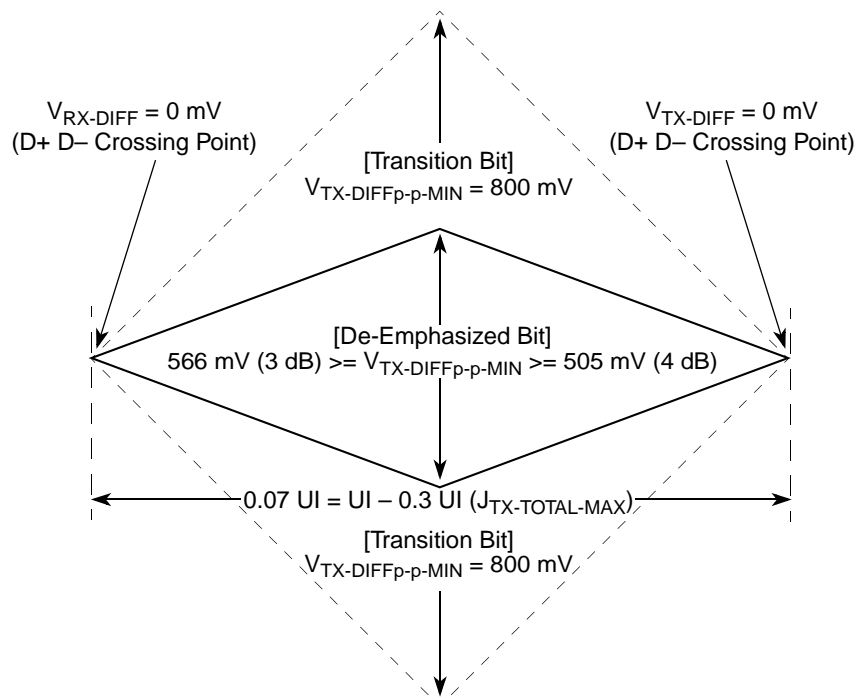
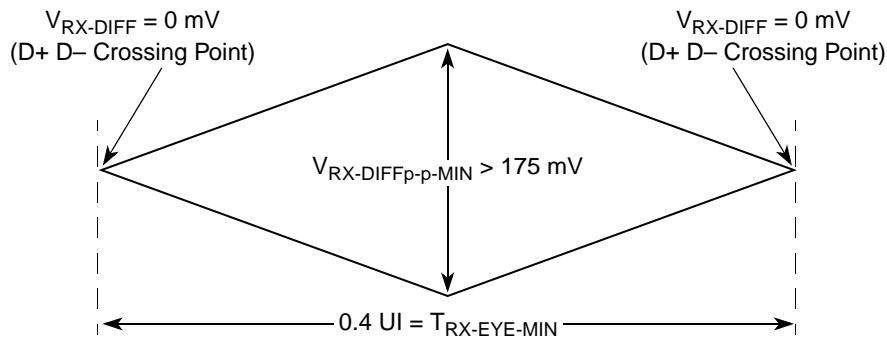
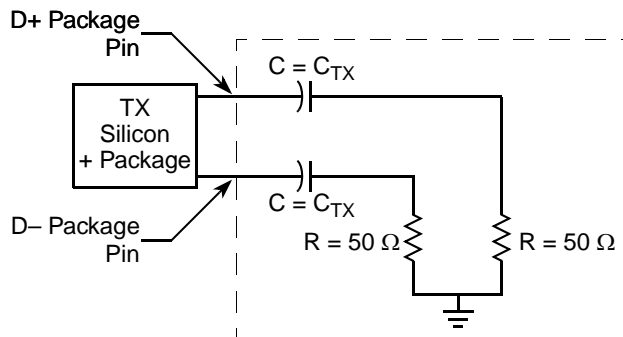

Figure 48. Minimum Transmitter Timing and Voltage Output Compliance Specifications
Figure 49. Minimum Receiver Eye Timing and Voltage Compliance Specification
Figure 50. Compliance Test/Measurement Load
2. Specified at the measurement point into a timing and voltage compliance test load as shown in Figure 50 and measured over any 250 consecutive TX UIs. (Also refer to the transmitter compliance eye diagram shown in Figure 48.)
4. The transmitter input impedance shall result in a differential return loss greater than or equal to 12 dB and a common mode return loss greater than or equal to 6 dB over a frequency range of 50 MHz to 1.25 GHz. This input impedance requirement applies to all valid input levels. The reference impedance for return loss measurements is 50  $\Omega$  to ground for both the D+ and D– line (that is, as measured by a vector network analyzer with 50- $\Omega$  probes—see Figure 50). Note that the series capacitors  $C_{\text{TX}}$  is optional for the return loss measurement.
5. Measured between 20%–80% at transmitter package pins into a test load as shown in Figure 50 for both  $V_{\text{TX-D+}}$  and  $V_{\text{TX-D-}}$ .
The TX eye diagram in Figure 48 is specified using the passive compliance/test measurement load (see Figure 50) in place of any real PCI Express interconnect +RX component.
2. Specified at the measurement point and measured over any 250 consecutive UIs. The test load in Figure 50 should be used as the RX device when taking measurements (also refer to the receiver compliance eye diagram shown in Figure 49). If the clocks to the RX and TX are not derived from the same reference clock, the TX UI recovered from 3500 consecutive UI must be used as a reference for the eye diagram.
4. The receiver input impedance shall result in a differential return loss greater than or equal to 15 dB with the D+ line biased to 300 mV and the D- line biased to -300 mV and a common mode return loss greater than or equal to 6 dB (no bias required) over a frequency range of 50 MHz to 1.25 GHz. This input impedance requirement applies to all valid input levels. The reference impedance for return loss measurements for is 50  $\Omega$  to ground for both the D+ and D- line (that is, as measured by a vector network analyzer with 50- $\Omega$  probes—see Figure 50). Note: that the series capacitors CTX is optional for the return loss measurement.
The RX eye diagram in Figure 49 is specified using the passive compliance/test measurement load (see Figure 50) in place of any real PCI Express RX component.
Note: In general, the minimum receiver eye diagram measured with the compliance/test measurement load (see Figure 50) is larger than the minimum receiver eye diagram measured over a range of systems at the input receiver of any real PCI Express component. The degraded eye diagram at the input receiver is due to traces internal to the package as well as silicon parasitic characteristics which cause the real PCI Express component to vary in impedance from the compliance/test measurement load. The input receiver eye diagram is implementation specific and is not specified. RX component designer should provide additional margin to adequately compensate for the degraded minimum receiver eye diagram (shown in Figure 49) expected at the input receiver based on some adequate combination of system simulations and the return loss measured looking into the RX package and silicon. The RX eye diagram must be aligned in time using the jitter median to locate the center of the eye diagram.
The reference impedance for return loss measurements is 50. to ground for both the D+ and D- line (that is, as measured by a vector network analyzer with 50-Ω probes—see Figure 50). Note that the series capacitors, CTX, are optional for the return loss measurement.
The AC timing and voltage parameters must be verified at the measurement point, as specified within 0.2 inches of the package pins, into a test/measurement load shown in Figure 50.